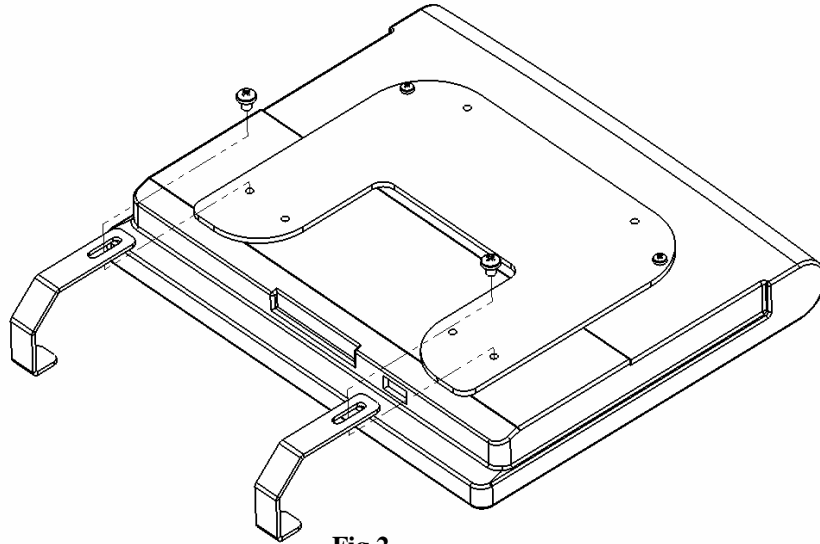

Fig.2
2. **Attaching the Securing Brackets:** Attach the Securing Brackets using two M4 X 5 Phillips head screws (Fig.2). Adjust securing bracket using the slot so that it is firmly against the bottom of the screen.